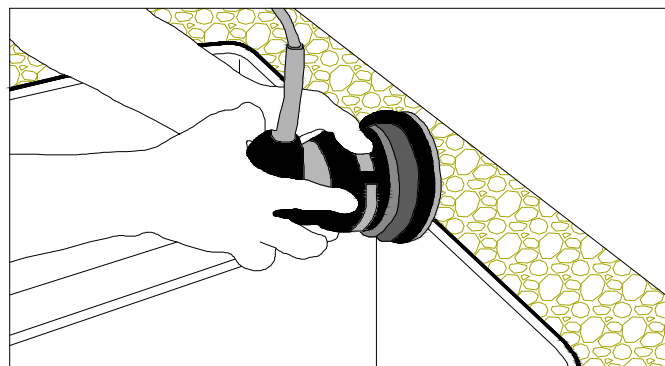

Figure 8C
- Sand the edge of the laminate and sink wall with a random orbital palm sander. Use a 150 to 220 grit sandpaper. (FIG. 8C)